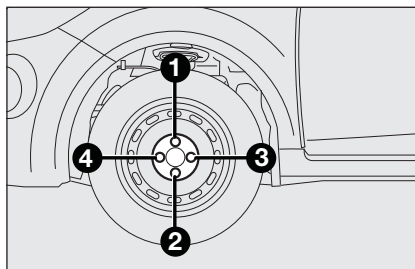

fig. 8
- ☐ fully tighten the bolts, passing alternatively from a bolt to the opposite one, following the order indicated in **fig. 8**.
- ☐ using the wrench provided, fully tighten the bolts in the sequence shown in **fig. 8**;